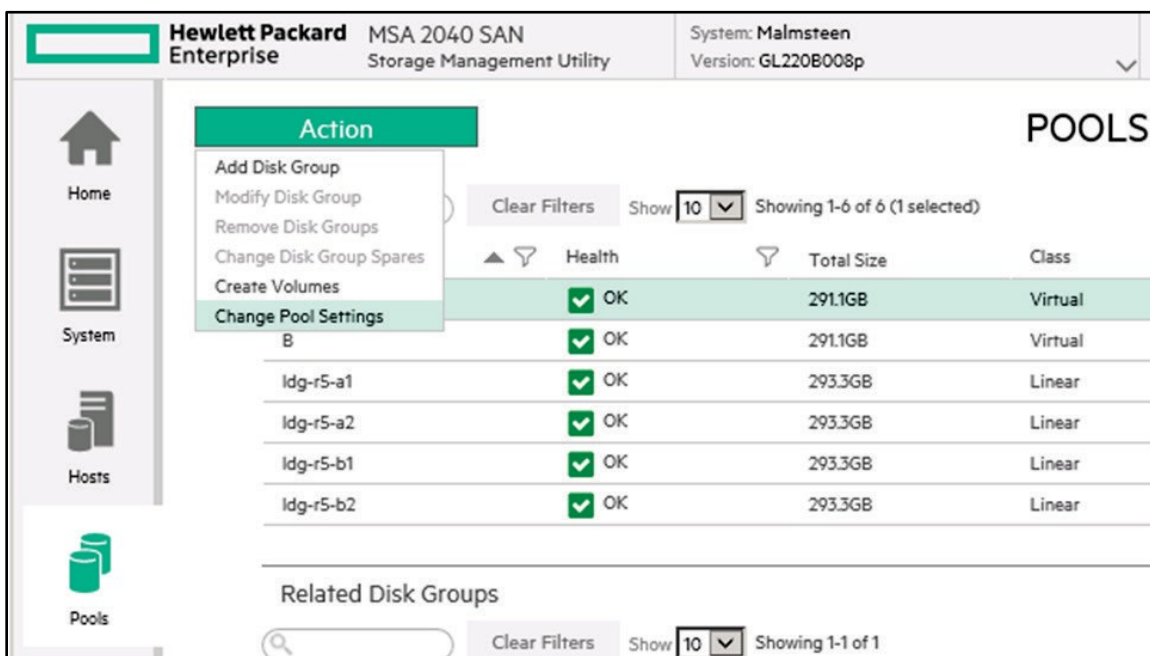

Figure 7. Changing Pool Settings
3. Uncheck the "Enable overcommitment of pool?" by clicking the box. See figures 7 and 8
See figures 7 and 8 above on how to set the thresholds.